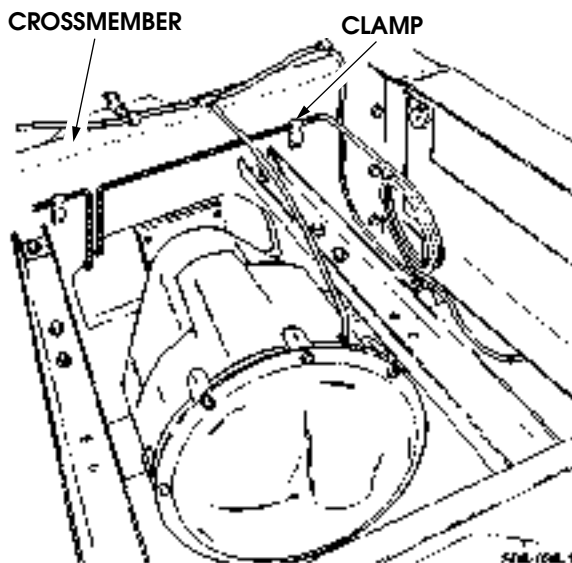

Figure 7-11: Front Brake Line Replacement
3. Remove the capscrew and clamp securing the brake line to the crossmember, and remove the brake line (Figure 7-11).